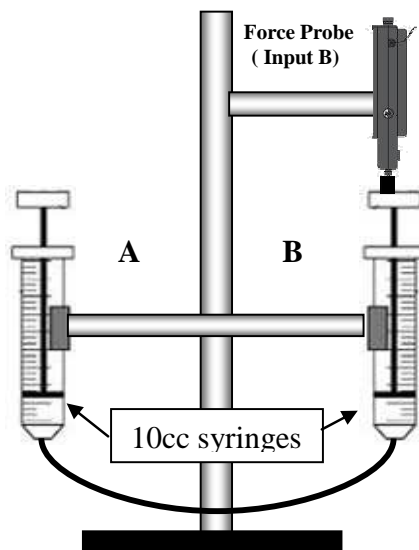

Fig. 6: Hydraulic Syringe Apparatus
1. Disconnect the tubing from syringe B and replace it with the second 10 cc syringe. Set up the apparatus shown in Fig. 6. Syringe B now has a piston with a force probe above it. You will need the second force probe as well. The probes should already be inserted into inputs A and B on the PASCO interface. Make sure that the probe above the right syringe is plugged into input B. Adjust force probe B so that as you lift piston B, it touches the force probe when the syringe reads about 2 cc. Before reconnecting the tubing between the syringes, make sure the two pistons are sliding freely. When this is done, lift piston A until it reads about 4 cc and reconnect the tubing to both syringes.